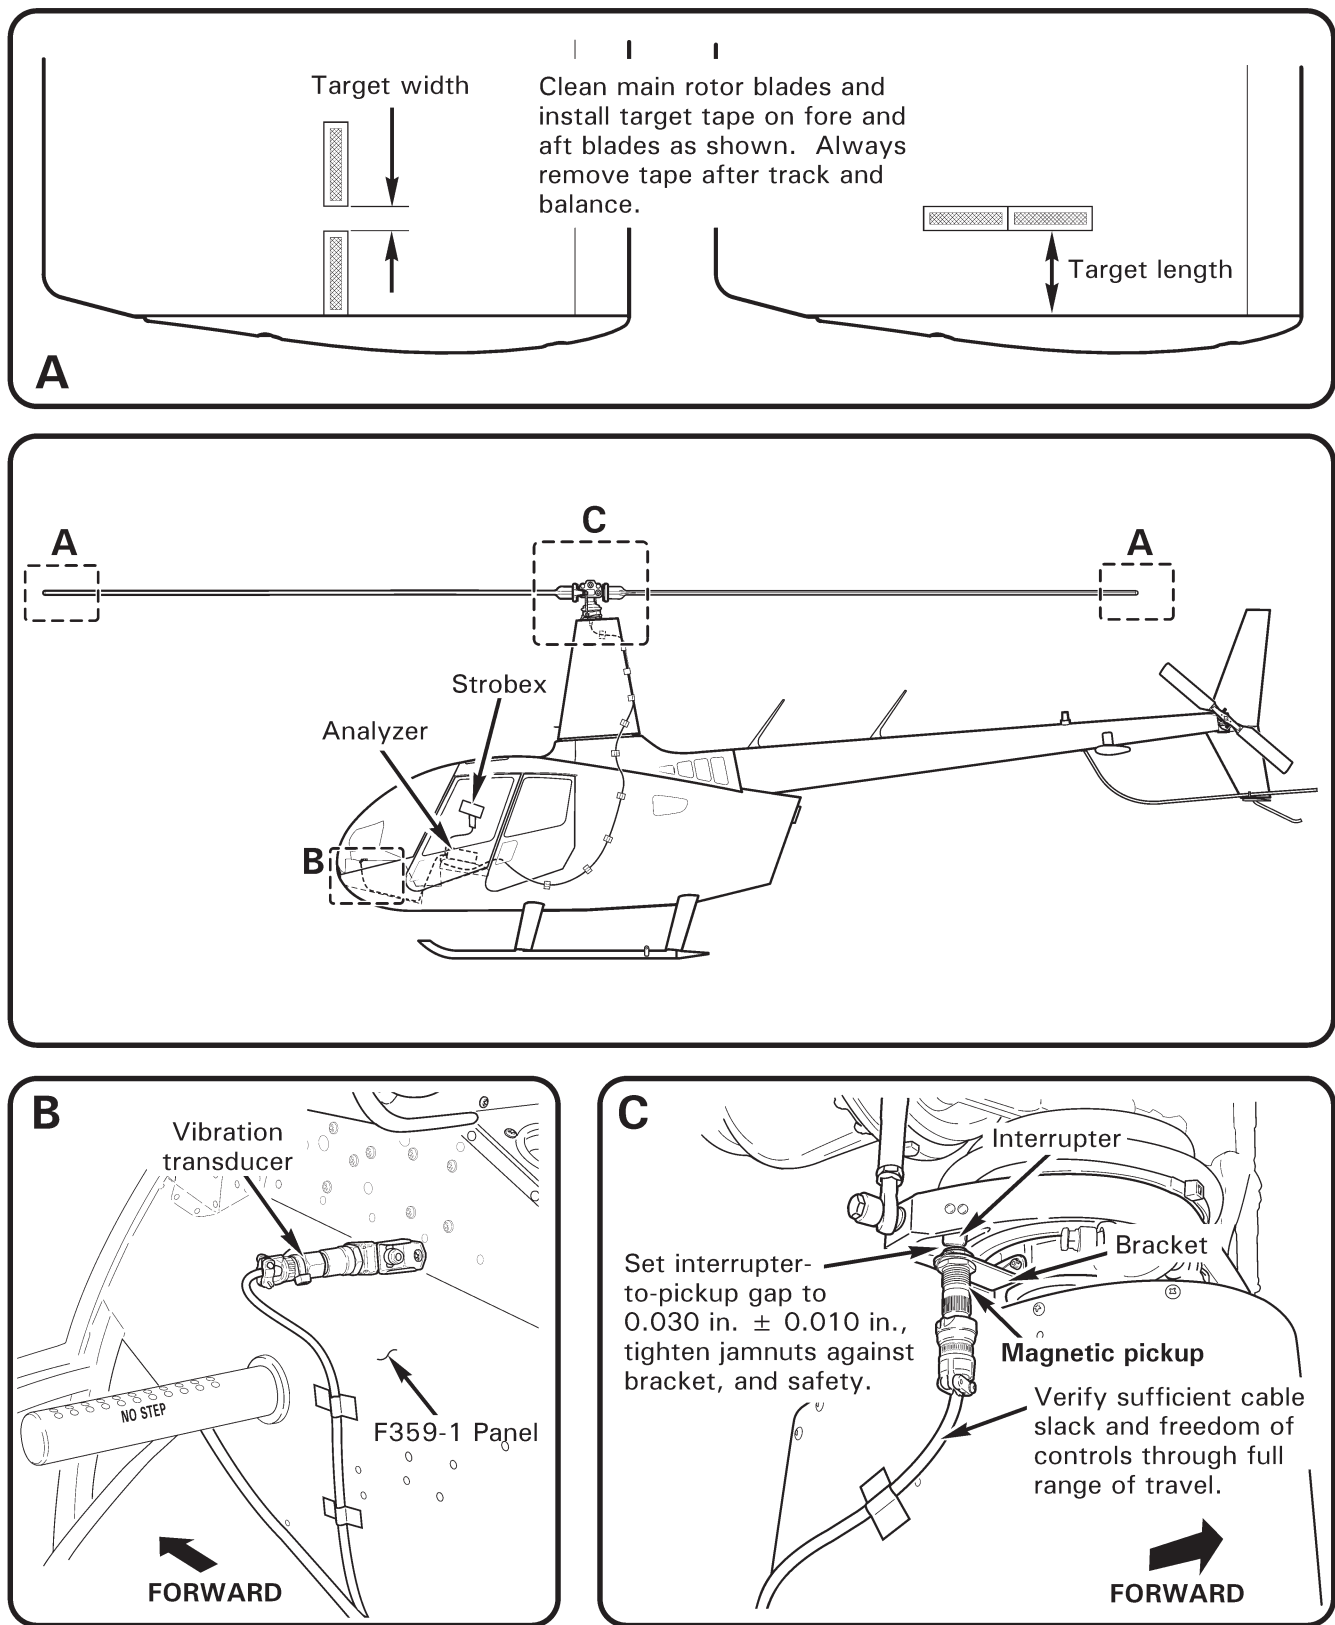

FIGURE 18-1 MAIN ROTOR BALANCING EQUIPMENT INSTALLATION
2. Clean main and tail rotor blades per § 20-10. Install main rotor blade target tape per Figure 18-1.
3. Refer to Figure 18-1. Using appropriate hardware, attach brackets to vibration transducer and attach assembly to F359-1 panel as shown. Remove removable controls.